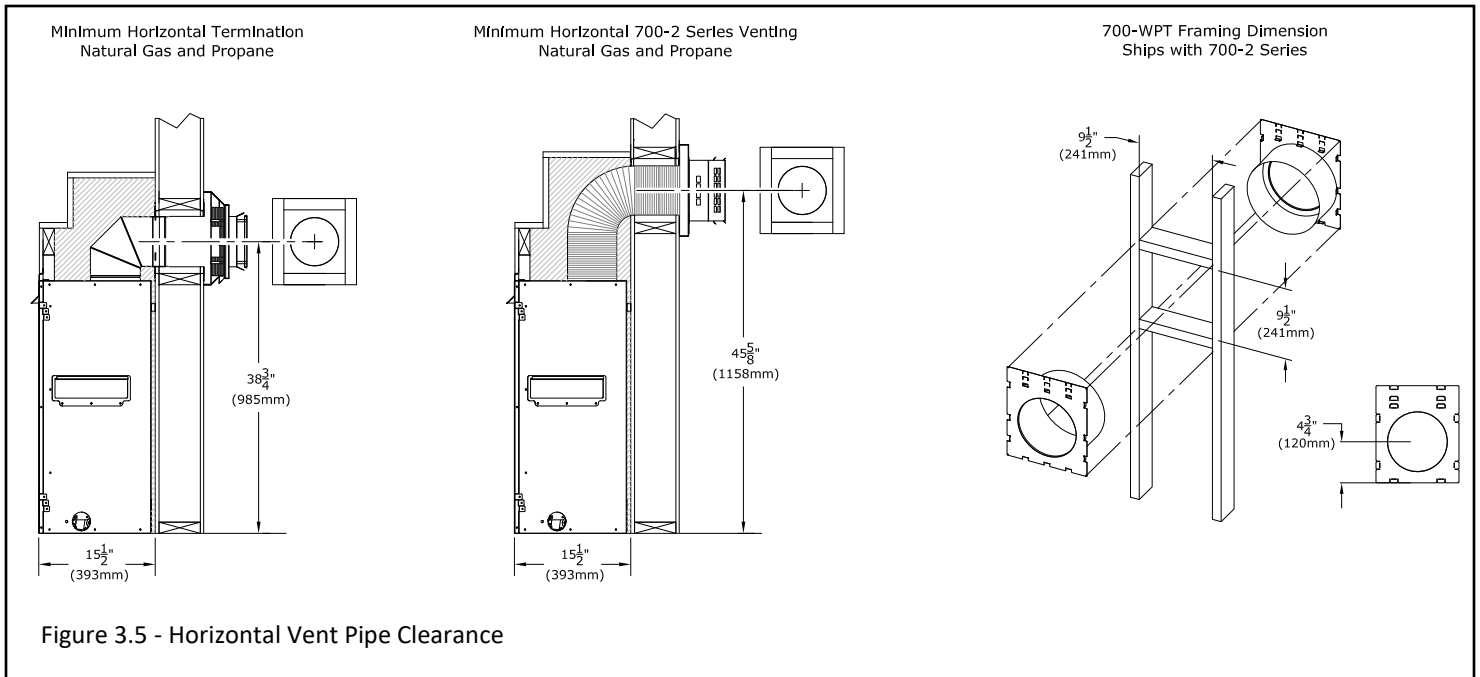

Figure 3.5 - Horizontal Vent Pipe Clearance
Refer to FIGURE 3.5 below for the following clearances
Follow FIGURE 3.5 below for minimum rough-in dimensions.
- Measure from floor level of the fireplace to the center of where the vent pipe will penetrate the wall. The dimension in FIGURE 3.5 is used with a Simpson DuraVent elbow.